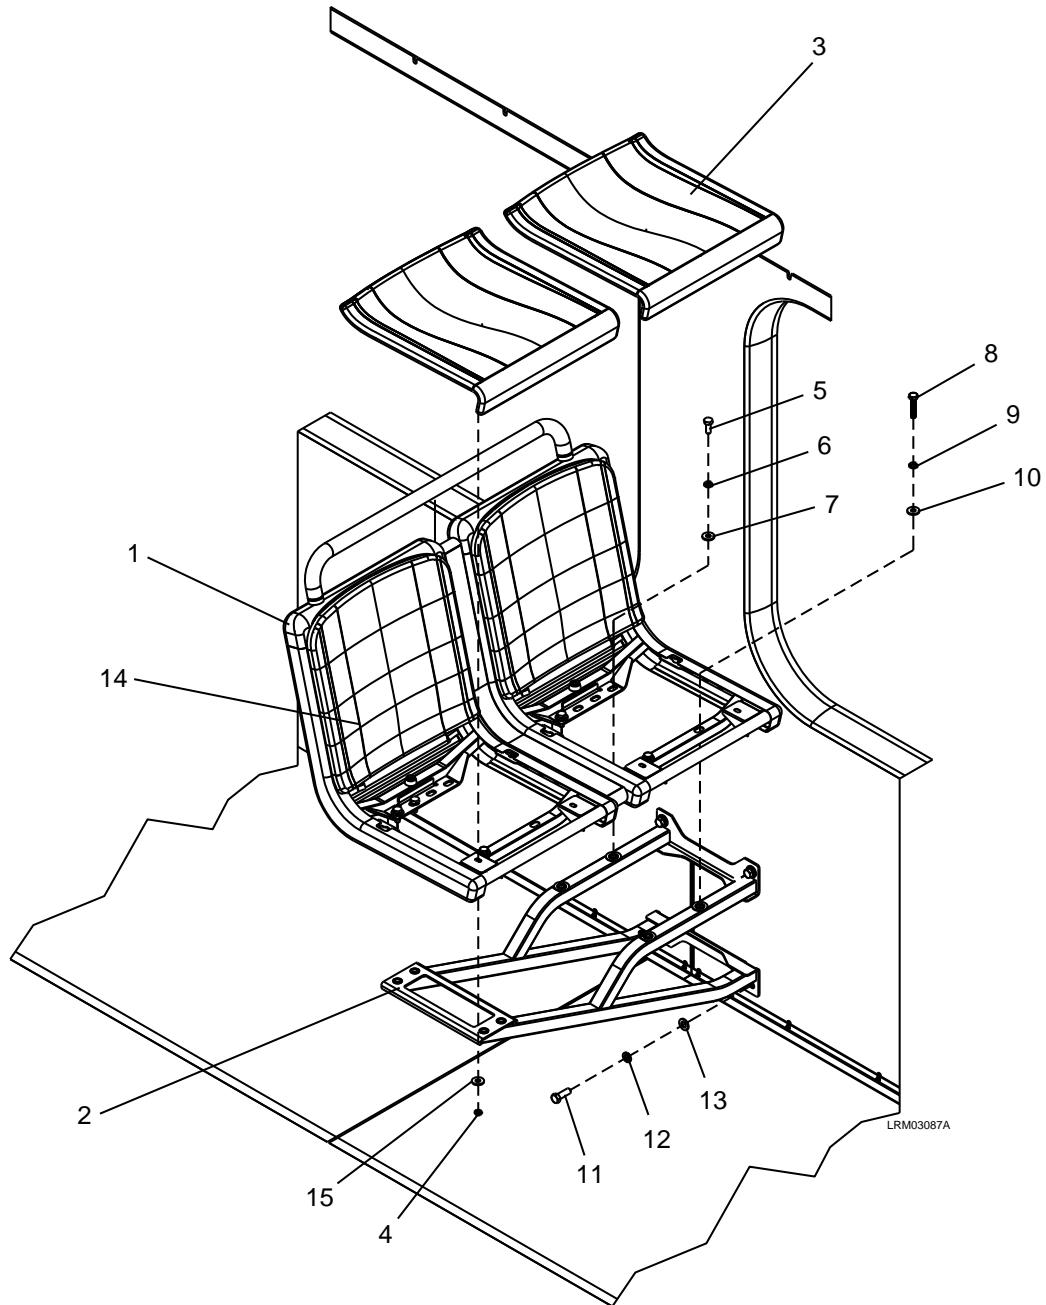

Figure 7-92: 2P LH & RH 36" Cantilever w/Grab Bar, No Stanchion
3. Lift the front of the bottom seat cushion (3) and pull the cushion forward to release the rear clips.
4. Remove the seatback cushions (14) by pulling down on the cushions to release the seatback cushions from the slots in the seat frame assembly (1). See Figure 7-92.
5. Remove three screws (8), three lock washers (9), three plain washers (10), four screws (5), four lock washers (6), and four plain washers (7) that attach the seat assembly (1) to the cantilever (2).
6. Remove the seat frame assembly (1) from the cantilever (2).
7. Remove the four M12 screws (11), M12 lock washers (12), and M12 plain washers (13) that mount the cantilever (2) to the wall of the car.